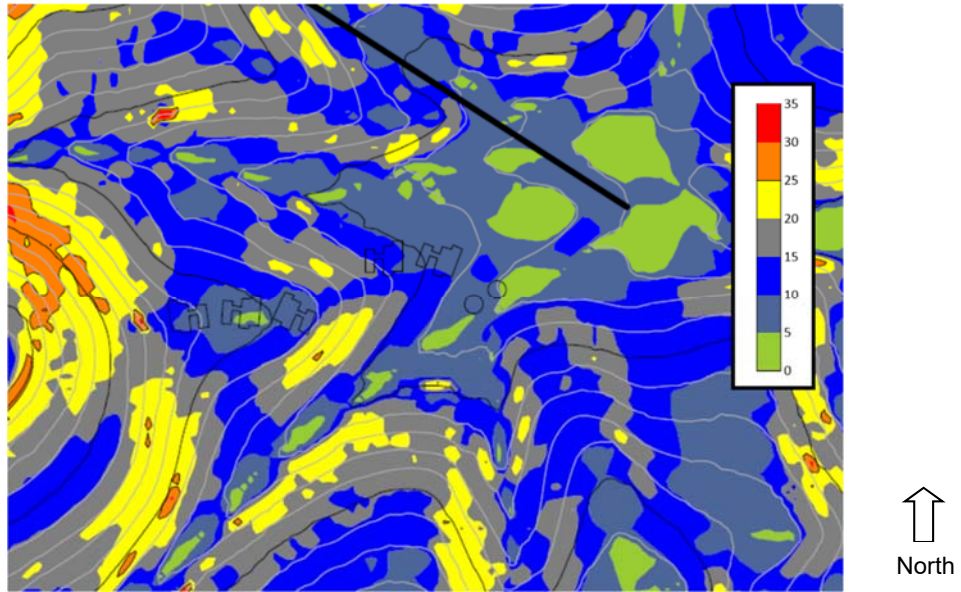

Figure 3 – Slope Map showing planned Cabins & Yurts
3. We used the DEM to create an aspect map to evaluate potential for wind-loading and solar gain. Figure 3 shows the aspect map.